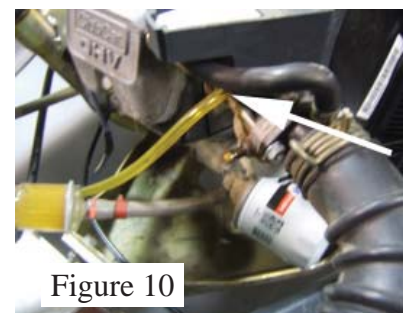

Figure 10
4. Disconnect the clear carburetor vent line and remove. (See Figure 10).